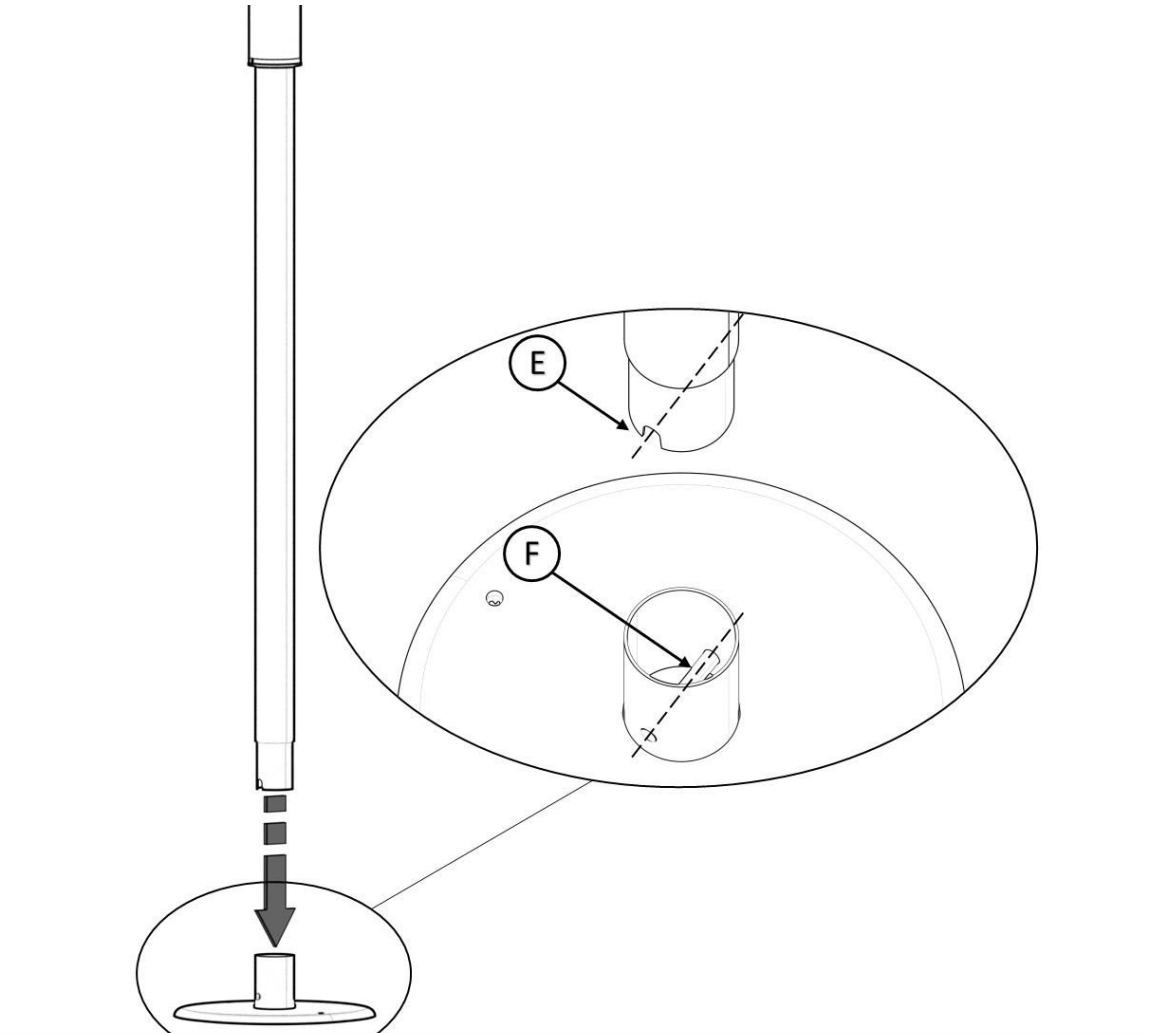

FIGURE 5
5. Place **F** on floor at target location and insert **E**. Make sure that the half hole in **E** is straddling the rod in **F** as shown in *FIGURE 5*.